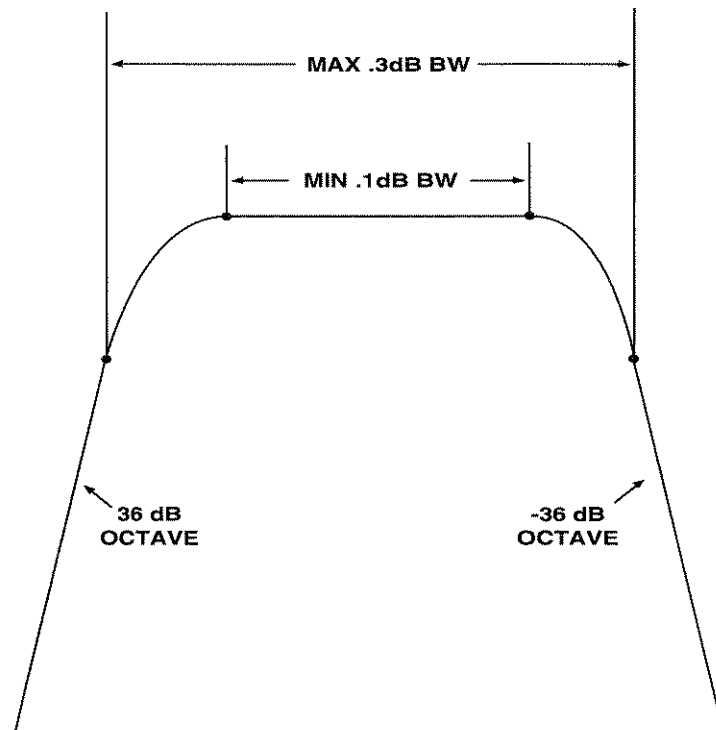

Figure B-2
- Filter Bandwidths: • Specified at the .1 dB and 3 dB points with 36 dB octave roll-off (see Table B-2 and Figure B-2).